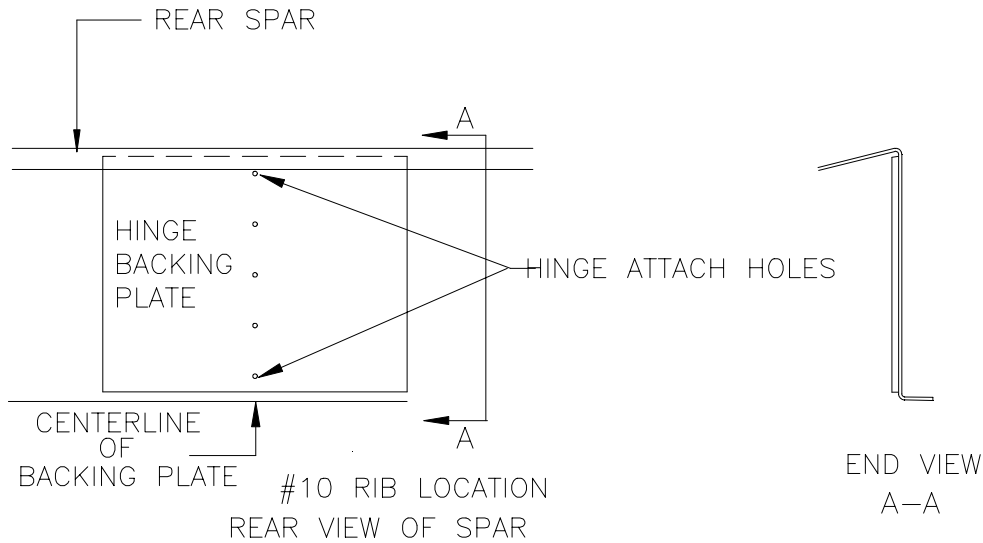

Figure 8.5.2
- 2) At the #10 rib location position a Hinge Backing Plate (W-133) as in Figure 8.5.2.